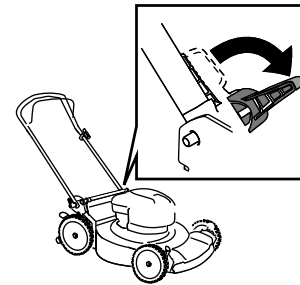

Figure 17
- Disengage the handle locks (Figure 17).